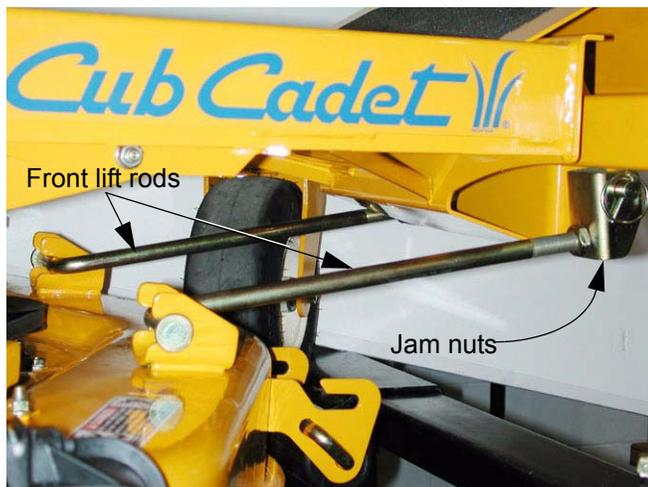

**Figure 1.10**
- 1.10. To do fore and aft **pitch adjustment**, align the blades front to back. See Figure 1.10.